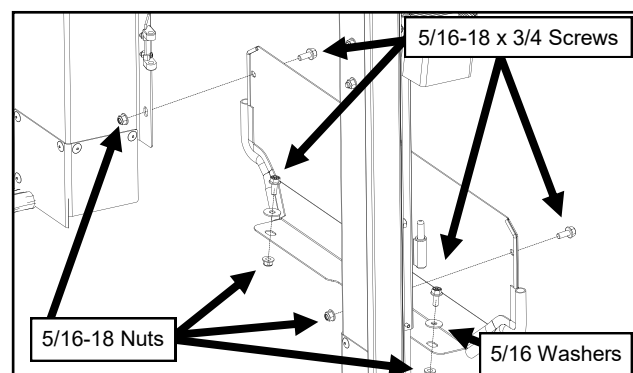

Fig. 10.1 (Lower Rear Panel Fasteners)
- 10.1 Fasten the lower rear panel to the rear legs as shown in Figure 10.1.
- 10.2 Secure the lower rear panel to the vehicle using the fasteners shown in Figure 10.1